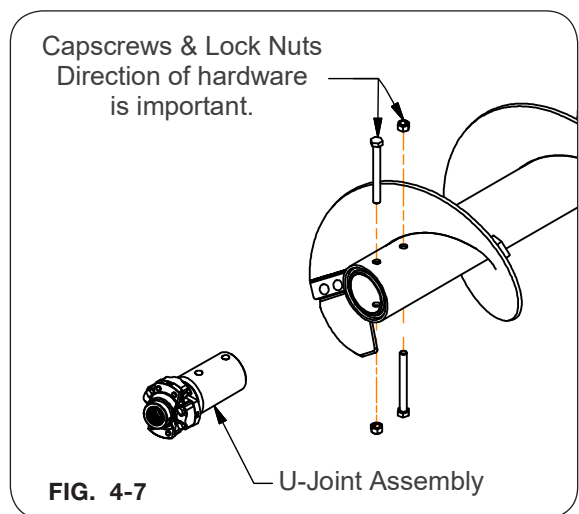

FIG. 4-7
5. Attach the u-joint assembly to the lower auger flighting by placing 3/4"-10UNC x 7" capscrews (9390-159) and 3/4"-10UNC lock nuts (9802) into the auger from opposite directions. (Fig. 4-7)